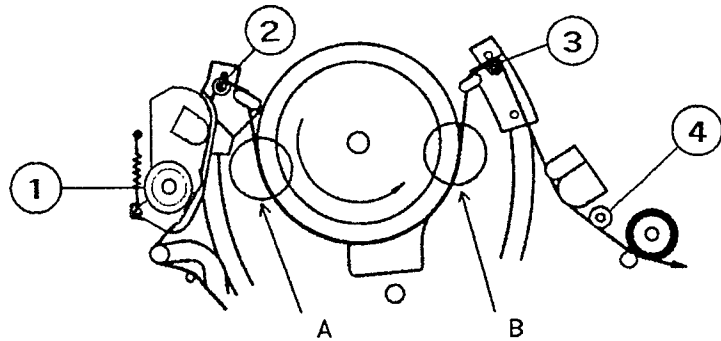

Fig. 5-1
2. Load a blank tape and set the VCR to the PLAY mode. Check the tape transport at points A and B as shown in Fig. 5-1.